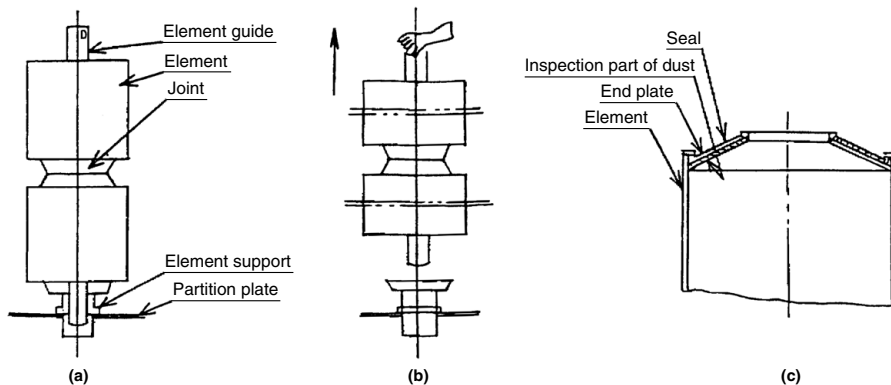

Fig. 1
After the element holder is taken out, if the element guide is taken out in such a manner as shown in Fig. 1, the element and joint can be taken out together.
- 5-1. In the case of the micro mesh element (cylindrical or pleat type (spherical seal is not used)) and sintered element, be sure to remove dust completely between end plate and seal completely. (Refer to Fig. 1 (c))